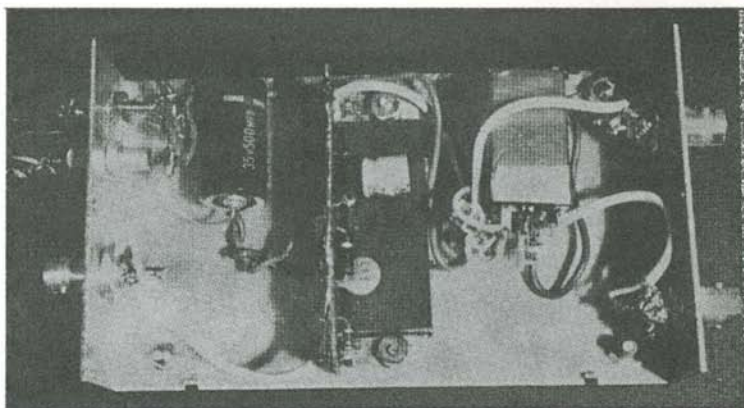

Fig. 6-60. Internal (bottom) view.
7. Mount 3 BNC connectors, feedthrough capacitor and ground lugs to chassis. As shown in Fig. 6-60, also secure a #8 terminal lug to one of the screws holding the heat sink to the chassis. This is the relay ground lug.
10. Position the relay as shown in Fig. 6-60. Terminals A and B will be up. Solder the #8 terminal to the copper foil at the end of the relay opposite from the contacts. This will partially secure the relay in place while also grounding the relay's shield.